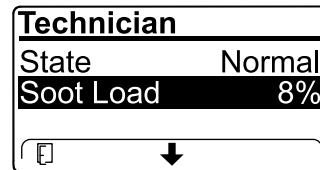

Figure 41
- View the soot load which is measured as the percentage of soot in the DPF (Figure 41); refer to the soot-load table.